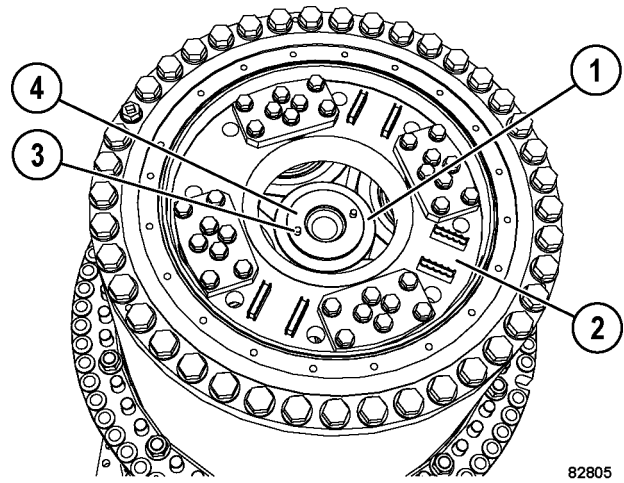
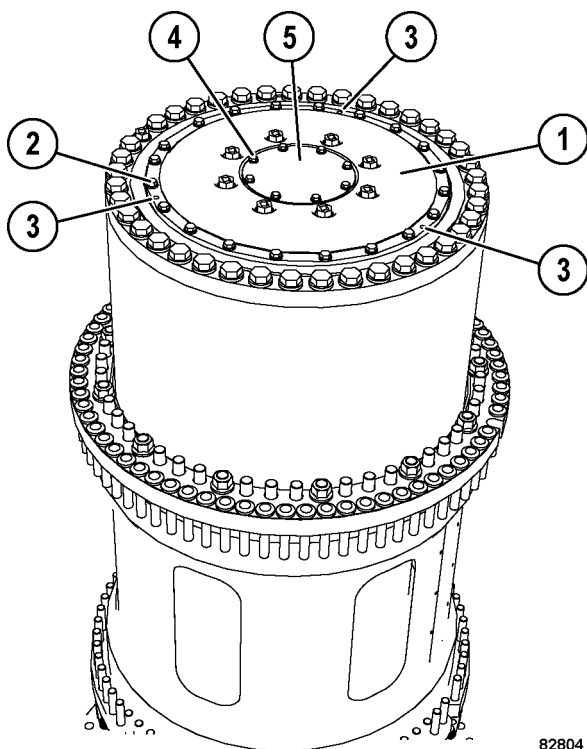
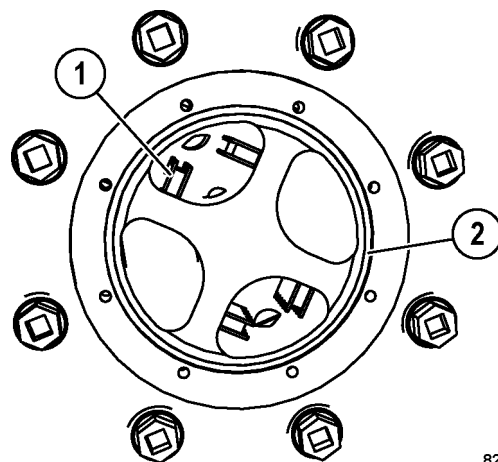

FIGURE 50-24.
FIGURE 50-57.
FIGURE 50-58.
8. Remove spacer (4, Figure 50-24) and two dowel pins (3) from the cover.
9. Attach two lift eyes (M12 x 1.75) to low speed sun gear (1). Attach lifting straps and a hoist to the lift eyes. Lift the sun gear from the assembly. The weight of the sun gear is approximately 120 kg (265 lb).
- 51. Install 24 capscrews (2, Figure 50-57) and the washers that secure cover (1) to the assembly. Tighten the capscrews to **277 ± 32 N·m (204 ± 24 ft lb)**.
- 52. Ensure there are four magnets (1, Figure 50-58) attached to main cover. Install a new O-ring (2) and then place cover (5, Figure 50-57) into position. Install eight capscrews (4) and the washers. Tighten the capscrews to **110 ± 12 N·m (81 ± 9 ft lb)**.